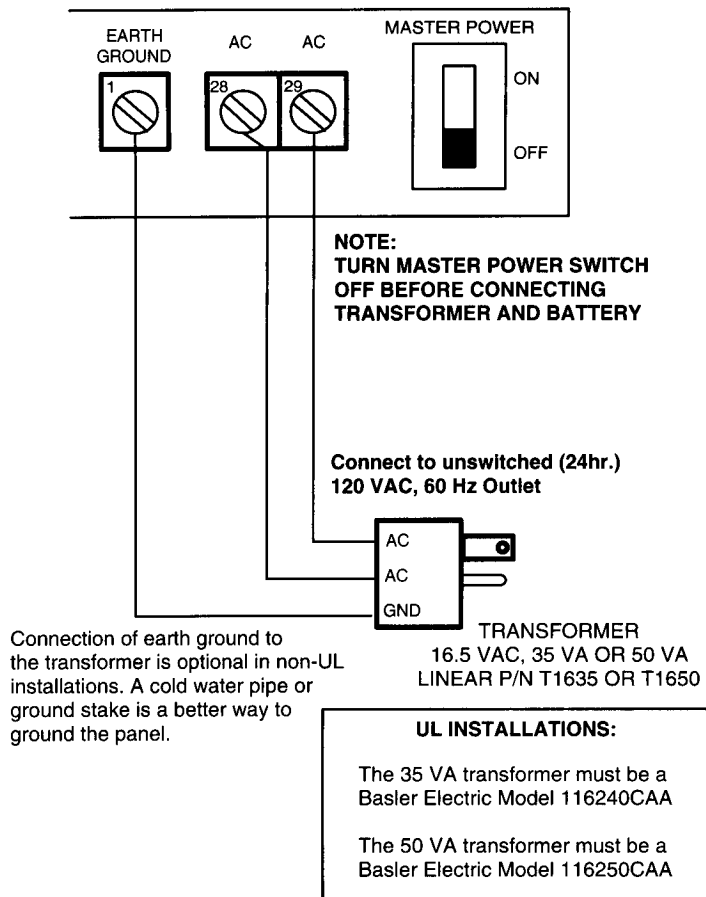

Figure 41. AC Transformer Connection
Alternately, connect the EARTH GROUND terminal to a cold water pipe or to the GND terminal on the AC transformer (see Figure 41).
- STEP 1** Be sure that the CP-90 MASTER POWER switch is off (see Figure 41).
- STEP 2** Connect the transformer to the AC terminals of the CP-90 using size 18 gauge minimum two-conductor wire. **Maximum wire run is 50 feet.** See Figure 41.